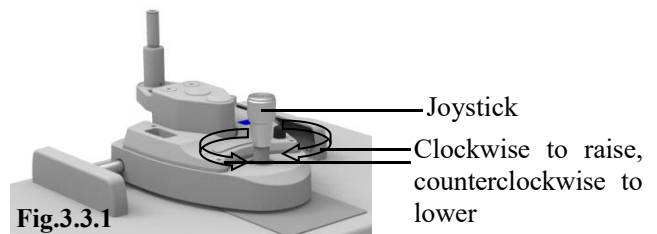

Fig.3.3.1
position (see Figure 3.3.1), move the base back and forth to move the microscope in a horizontal direction to roughly align the target.
- ② Adjustment in the vertical direction: Rotate the joystick to adjust the height of the microscope to align it with the target. Rotate clockwise to raise the microscope; counterclockwise to lower the microscope (see Figure 3.3.1).
- ③ Slightly adjustment in the horizontal direction: Tilt the joystick tilt back and forth to make the microscope move slightly in the horizontal direction. Observe through the eyepiece to accurately align the target to obtain a clear observation (see Figure 3.3.1).